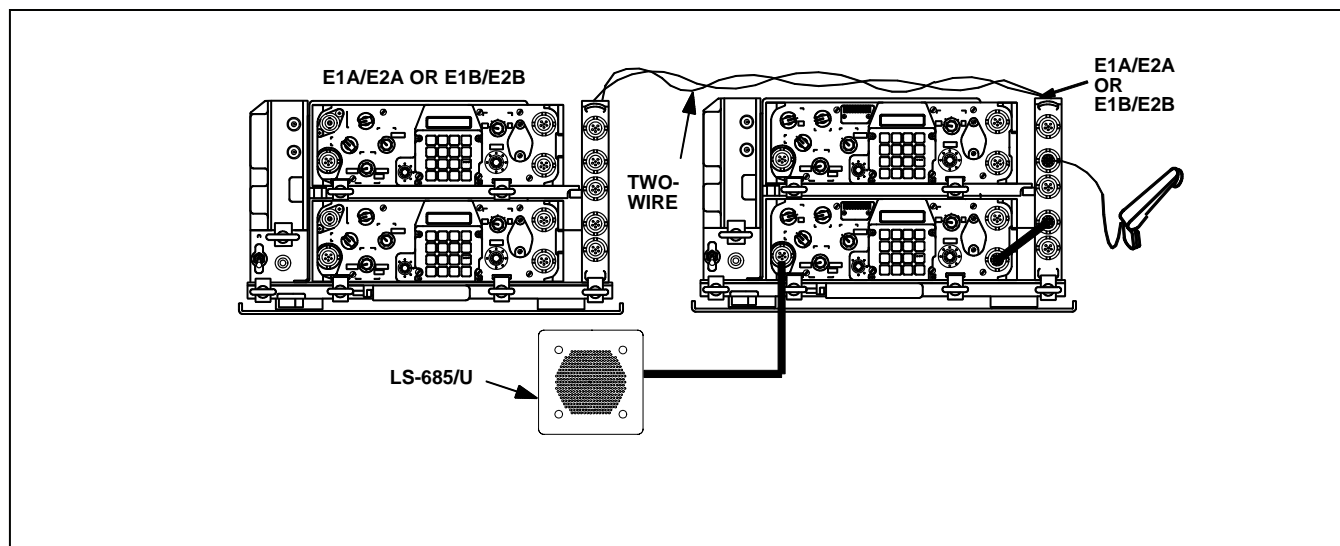

Figure 4-27. VEHICULAR MOUNTED RCU TO VEHICULAR RADIO
- Vehicular mounted RCU to vehicular radio. (See Figure 4-27, below)